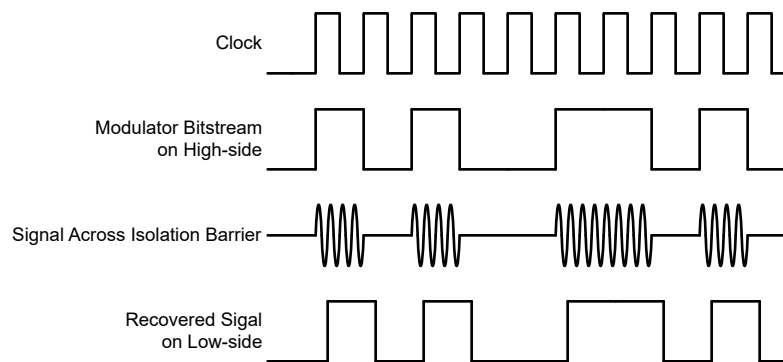

图 7-3. OOK-Based Modulation Scheme
The AMC1306M25E uses an on-off keying (OOK) modulation scheme, as shown in Figure 7-3, to transmit the modulator output bitstream across the SiO₂-based isolation barrier. The transmit driver (TX) shown in the Functional Block Diagram transmits an internally generated, high-frequency carrier across the isolation barrier to represent a digital *one* and does not send a signal to represent a digital *zero*. The nominal frequency of the carrier used inside the AMC1306M25E is 480 MHz.